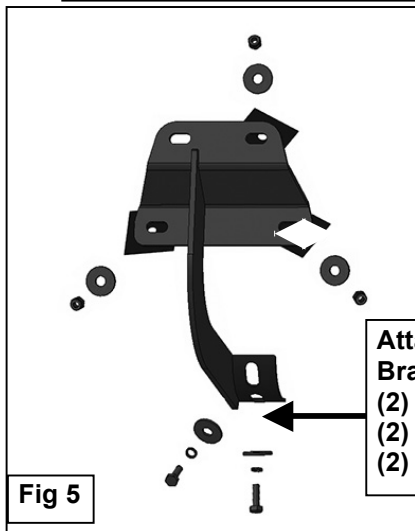

Fig 5
4. Repeat **Steps 1—3** to install the (2) remaining center and rear passenger side Brackets.
5. Select the passenger/right Sidebar. Carefully position the Sidebar onto the (3) Mounting Brackets. **IMPORTANT:** Do not slide, (front to back or rotate), the Sidebar on the Brackets or damage to the finish on the Sidebar may result. Attach the Sidebar to the Mounting Brackets with (6) 8mm x 25mm Hex Bolts, (6) 8mm Lock Washers and (6) 8mm Flat Washers, **(Figure 5)**. Do not tighten hardware.